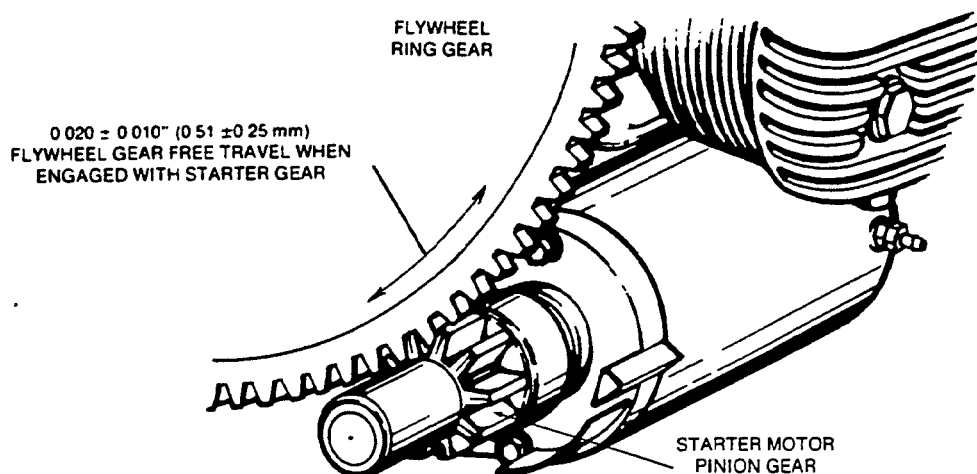

FIGURE 5. CHECKING STARTER GEAR LASH
4. Measure the amount of free travel (lash) between the pinion gear teeth and the ring gear teeth (Figure 5). If lash is too tight causing binding and slow starter operation, or lash is greater than 0.035 inch (0.889 mm), lash must be adjusted.